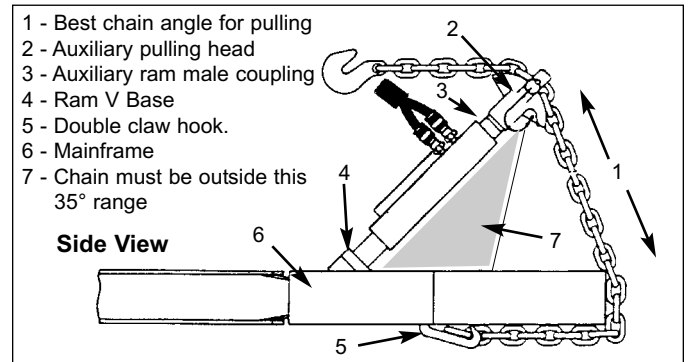

Figure 7
**LATERAL PULLS: (Figures 7 - 11, pages 3 - 4)**
2. Secure v-base, male coupling and auxiliary pulling head to 6 inch (150 mm) auxiliary ram. (See Figure 7.)
1. To avoid damage to auxiliary ram from side loading, assemble components as shown in Figure 7. Auxiliary pulling head must be positioned inward from outer edge of mainframe.
**CAUTION:** Always attach v-base to piston end of ram. (See Figures 7 and 8.) DO NOT add extension tubing to piston end of ram.